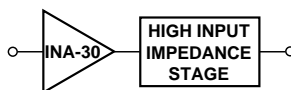

Figure 10. INA-30311 Driving a High Input Impedance Stage.
- For receiver IF amplifier applications up to several hundred MHz, the relatively higher output impedance level of the INA-30311 may be used to advantage when interfacing directly with devices having higher than 50 Ω input impedances, such as certain signal processing or mixed signal ICs. This application is shown in Figure 10.